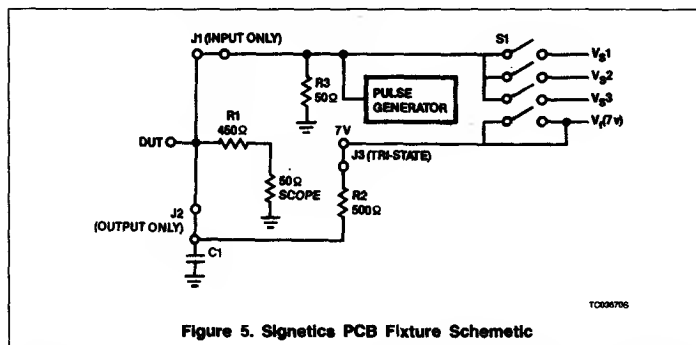

Figure 5. Signetics PCB Fixture Schematic
There are two types of signal lines on this fixture: input and output; both of which are 50 Ω transmission lines. The input line is on the top side of the board and is always terminated in 50 Ω . It is connected to the DUT via a .3" jumper, Jumper #1 for input. When this jumper is installed, the DUT pin is available only as an input. To allow this line to be used as an output, a .1" jumper, Jumper #1 for output, is used instead of the .3" jumper. This connects the DUT pin to the AC load when the DUT pin is an output. See Figure 5.
hard to detect errors into the waveform. The second reason being that most suppliers of these technologies provide data based upon the Low-impedance approach and most large users of these products do so as well. This also allows the fixture to be used for ECL testing since that product uses a totally 50Ω environment. Figure 5 illustrates how this test fixture implements the 50pF/500Ω load schematically.
As illustrated in Figure 5, the load is shared with the 50Ω input of the measurement system; a 50Ω sampling oscilloscope. The 450Ω resistor: R1, is soldered to the socket pin of the device end is in series with the 50Ω input of the scope. Figure 6 illustrates this on the board layout of one input/output pin. This allows virtually a probe tip on the device pin. The load capacitor: C1, is a 33pF ceramic chip capacitor. This is added to the measured value of 17pF of board capacitance, achieving the 50pF value specified for the load. The distance from the pin to the capacitor is .5 inches and is adequate for the testing of these product families.
For testing 3-State parameters, the 500Ω resistor: R2, is connected to its pullup supply. V_i via a .3" jumper: Jumper #2. The V_i supply is bussed to each pin and may or may not be connected with that jumper. See Figures 5 and 6.
When the input is not used for a signal input, the line may be switched to one of three voltage sources: $V_S 1$ through $V_S 3$, by the use of a DIP switch on each pin. It may also be left open and then the 50Ω pulldown resistor: $R1$, pulls the line to ground and can be used as a hard low level. See Figure 5. These voltage levels are brought in from external supplies through banana connectors like V_{CC} . This scheme eliminates excessive cabling to each input to provide the static input levels and thereby reduces parasitic inductances and cross-talk. Each of the 3 busses and the V_i bus all have places for bypass capacitors in the event of noise on the static levels. Figure 8 illustrates the DIP switch and SMB connectors and how they control the input stimulus and output measurement.
dedicated fixture. However, on a dedicated fixture, the pins are individually constructed to be either an input or an output, and in so doing, the fixture is usable for 1-to-4 devices. The Signetics fixture, once dedicated to a particular V_{CC} and GND configuration, is built up to have both input and output components on all signal pins. The selection of which pin is an output or an input is made by inserting the appropriate jumper. See Figures 5 and 6. The same applies in doing tri-state testing. The tradeoff here is that it would probably take less time to setup the dedicated fixture than the Signetics fixture. To help compensate for that tradeoff, we have the three V_S supplies that may be switched into any pin to provide input static levels and eliminate the need to bus input High or Low levels by external cabling. For the user that means the only connections being made to the fixture are:
- the V_i supply (banana jack): this is the 3-State pullup voltage and is permanently connected to the bus to each pin. It is selectable by Jumper #2, see Figures 5 and 6. For FAST and ALS products this is 7V. For ACL products this is $V_{CC} \times 2$ and it is not used for ECL applications.